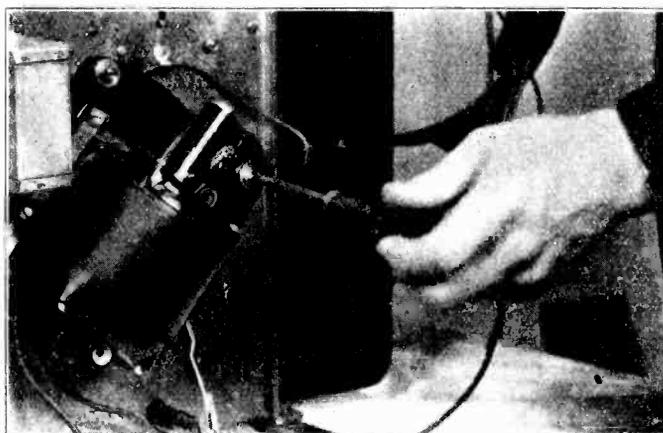

Figure 9 — Adjusting Turntable Spindle Height
- (a) *Improper Turntable Spindle Height*—The height of the turntable spindle nose should be $\frac{3}{32}$ " above the inside bottom surface of the record magazine. Adjustment of this height made by means of the screw at the bottom of the motor. (See Figure 9.)
- (b) *Turntable Spindle Shaft Too Low*—This condition will cause binding between the pawl carrier and the clutch wheel. Raise the spindle as shown in Figure 9.